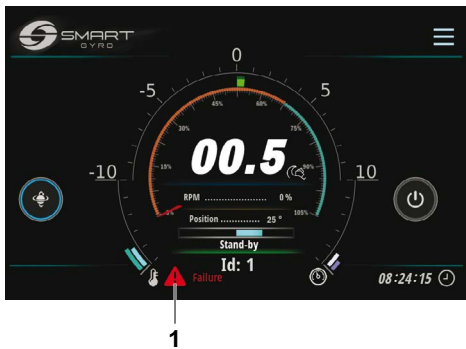

Figure 1
In the occurrence of a low-level anomaly, the gyro system will continue to operate, but in the occurrence of a high-level anomaly, it will lock the precession and stop the motor. In addition, alert icons (Figure 1, (1)) flash on the home page to notify you of the occurrence of the high-level anomaly.